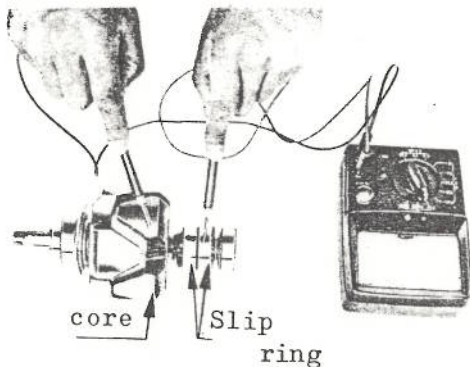

Fig. 10-21
(7) The rotor coil should be checked for insulation. The tester may be connected between the slip ring and the shaft or the core to see if conduction takes place. If so, it is that the slip ring or the coil is grounded. (See Fig. 10-21) If conduction does not take place between two slip rings, the coil is disconnected. For its resistance, refer the paragraph "Maintenance Standard".